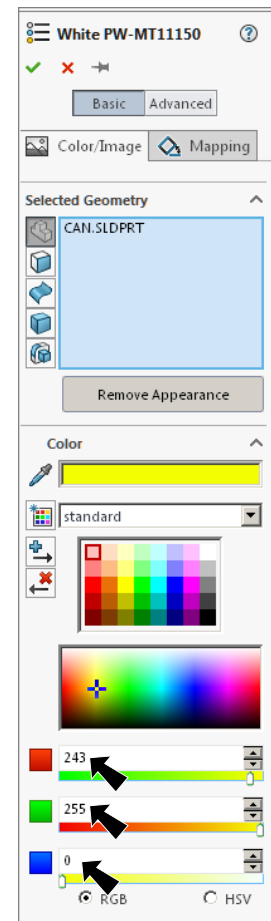

Fig. 116
Step 3. In the Appearances Property Manager, under Color, **Fig. 116**